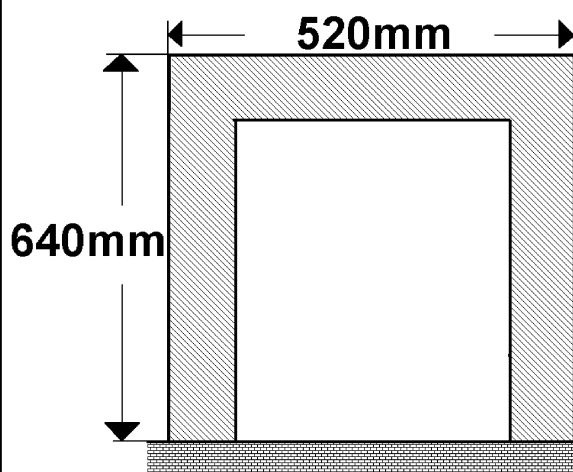

Figure 3. Area to be free of combustible cladding
4.17 If the fire is to be fitted against a wall with combustible cladding, the cladding must be removed from the area shown in figure 3.